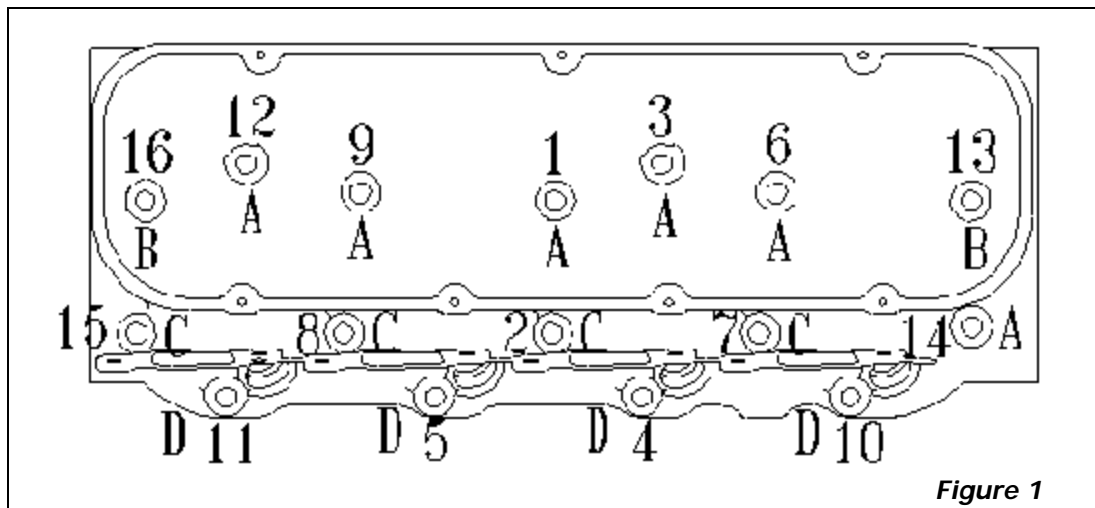

Figure 1
**HEAD BOLTS or STUDS:** High quality head studs or head bolts with hardened washers must be used to prevent galling of the aluminum bolt bosses. **Edelbrock Head Bolt Kit #8551 includes eight longer-than-stock bolts which must be used with these cylinder heads. If you use any other head bolts, you must use the eight head bolts and washers supplied with these heads in positions #15, #8, #2, and #7 in Figure 1.** These positions will not accept stock length head bolts.
**INSTALLATION:** Installation is the same as for original equipment cylinder heads. Consult service manual for specific procedures, if necessary. For 454 and smaller Mark IV engines use Fel-Pro head gasket #1017-1 or equivalent. For 454 Gen V and Gen VI engines use Fel-Pro head gasket #1037 or equivalent. Be sure that the surface of the block and the surface of the head is thoroughly cleaned to remove any oily film before installation. Use alcohol or lacquer thinner on a lint-free rag to clean. Apply liquid teflon or suitable thread sealer to head bolt threads. Torque short bolts to 65 ft./lbs. and long ones to 75 ft./lbs. in three steps following the factory tightening sequence (see Figure 1). A re-torque is recommended after initial start-up and cool-down (allow 2-3 hours for adequate cooling).